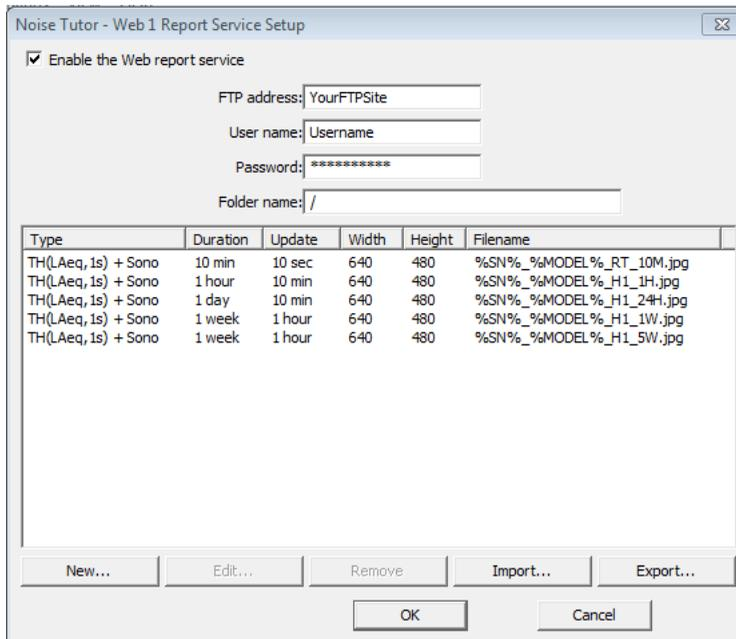

FIGURE 3-21 Web Report Service Setup
Step 2 On the **Setup** menu, click **Realtime Report** and then click **Web1...** This launches the **Web Report Service Setup** dialog box, as shown in Figure 3-21.